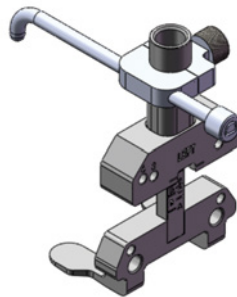

Figure 2a Femoral Sizing Guide Figure 2b Broach Handle
<p>Ultrasonic Equipment</p> <p>Ultrasonic cleaners are designed for fine cleaning of instruments. They should not be used to initially remove gross soil from instruments, but after gross soil has been removed by other means. Ultrasonic cleaners will aid removal of soil from difficult access locations such as joints, crevices, channels and lumens in instruments.</p> <p>All type 2 and 3 devices (see Figures 2a through 3c) must be put through the ultrasonic cleaner.</p> <p>It is recommended to use enzymatic detergents in ultrasonic cleaners.</p>
4. All type 2 and 3 (see Figures 2a through 3c) instruments must be put through an ultrasonic cleaner containing warm enzymatic detergent in fully open or dismantled position for 10-15 minutes.
2. All type 2 and 3 (see Figures 2a through 3c) instruments must be put through an ultrasonic containing warm enzymatic detergent in fully open or dismantled position for 10-15 minutes.